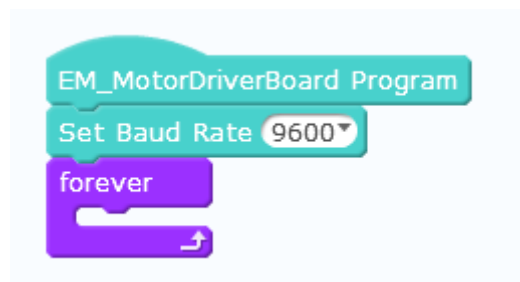

Figure 2-7
- 2) Click on the "Control" tab in the label area and drag the "Repeated Execution" block under the MotorDriverBoard main program in the script area, as shown in Figure 2-7.